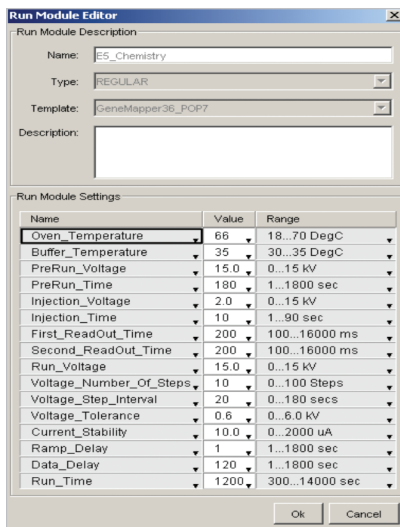

Figure 3. Create a new Run Module, using the GeneMapper36_POP7 setting as a template.
1. Create a new run module with the indicated GeneMapper36_POP7 settings (Figure 3).
2. Select Module Manager and then New. A Run Module Editor window will appear (Figure 3).